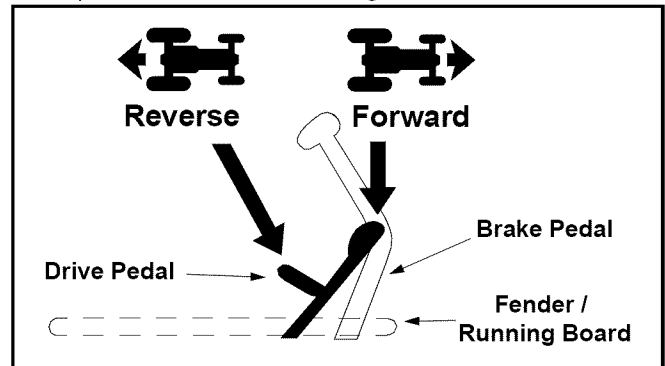

Figure 11
- To travel FORWARD, slowly depress the upper portion of the drive pedal forward until the desired speed is achieved. See Figure 11.
- To travel in REVERSE, check that the area behind is clear then slowly depress the lower portion of the drive pedal with the ball of your foot (NOT your heel) until the desired speed is achieved. See Figure 11.